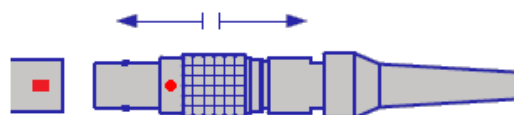

Figure 83: Connection of DC Connectors
4. Line up the red dot on the DC output connector of the AC Adapter with the red line on the power input connector of the Guardio Charger and then insert in the DC output connector into the power input connector. **See Figure 83.**